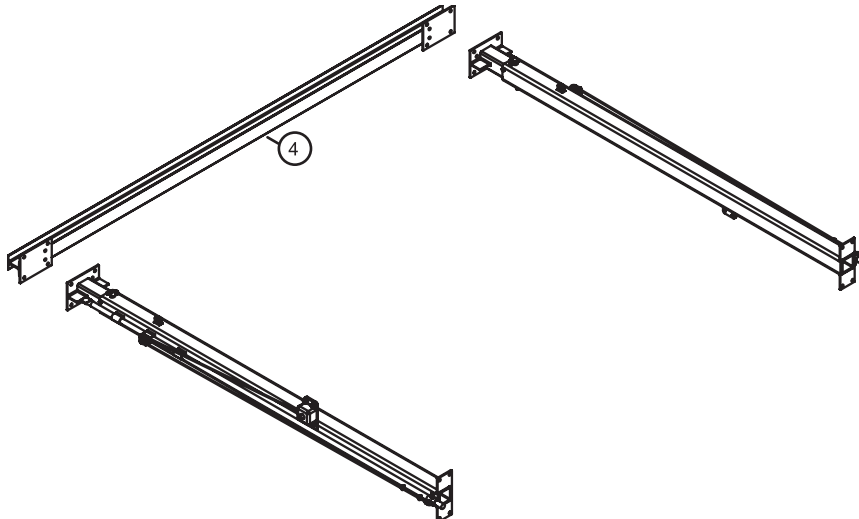

Fig. 1
Step 1: Lay out the I-Beam and the Vertical Support Assemblies, Fig. 1. Select a flat, clean floor with enough space to layout, assemble, and move the Gantry Crane. Place the Vertical Support Assemblies on the floor with the Pulleys, Winch Box, and Guide Tubes on the outside, as shown in Fig. 1. Check that the mating surfaces between the Vertical Supports and I-Beam (4) are clean and free from debris. Place the I-Beam (4) at the top of the Vertical Support Assemblies.